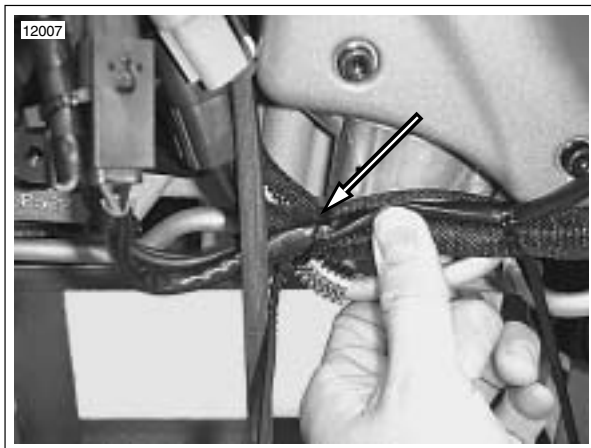

Figure 7-90. Cable Strap Wire Bundle to Return Oil Line
8. See Figure 7-90. At the oil pressure switch, use a cable strap to encircle the voltage regulator wire bundle and the oil pressure switch wire, and secure to the base of the oil pressure switch itself.
12. See Figure 7-90. Position the cam position sensor wire bundle, the voltage regulator wire bundle and the oil pressure switch wiring inboard, then push the wire bundle up against the return oil line and cable strap them to the return oil line.